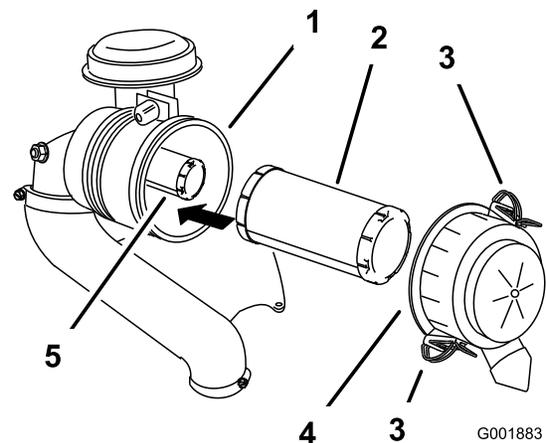

Figure 59
3. Release the latches on the air cleaner and pull the air-cleaner cover off the air-cleaner body (Figure 59).
5. Gently slide the primary filter out of the air-cleaner body (Figure 59).
2. If you are replacing the inner filter, carefully slide it into the filter body (Figure 59).
3. Carefully slide the primary filter over the safety filter (Figure 59).
4. Install the air-cleaner cover and secure the latches (Figure 59).